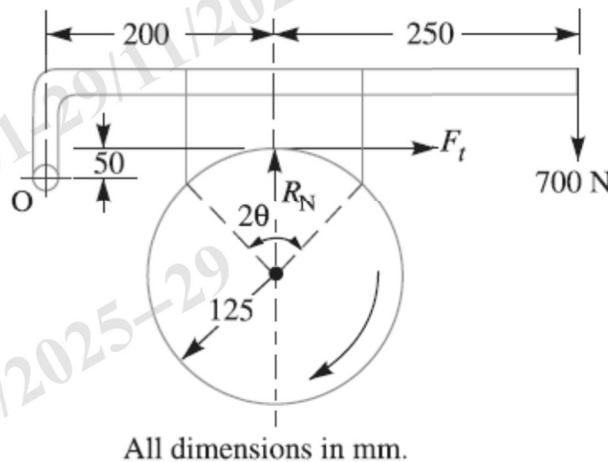

Fig. 1
- j) A single block brake is shown in Fig. 1. The diameter of the drum is 250 mm and the angle of contact is  $90^\circ$ . If the operating force of 700 N is applied at the end of a lever and the coefficient of friction between the drum and the lining is 0.35, determine the torque that may be transmitted by the block brake.